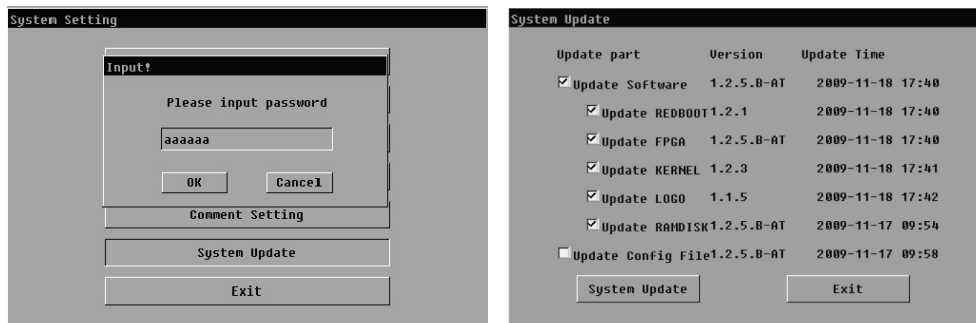

Figure 3.9: System update
4. Select the parts to be updated, refer to Figure 3.9, and click **Update** to start updating the system. This step takes about 10 minutes.